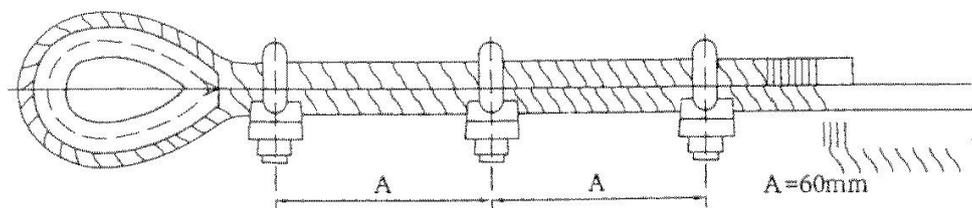

Figure 7: The Correct Clamping Method
4.5.2 The fixing method at the end of steel rope should be in accordance with the requirements of the standard GB5976-86 (see figure 7 as below). U bolt is fixed on the rear portion of steel ropes; clamp is fixed on the working section of steel ropes, which cannot be mixed up. The steel rope clamp cannot be alternately arranged on the steel rope, and the correct clamping method is as follows: